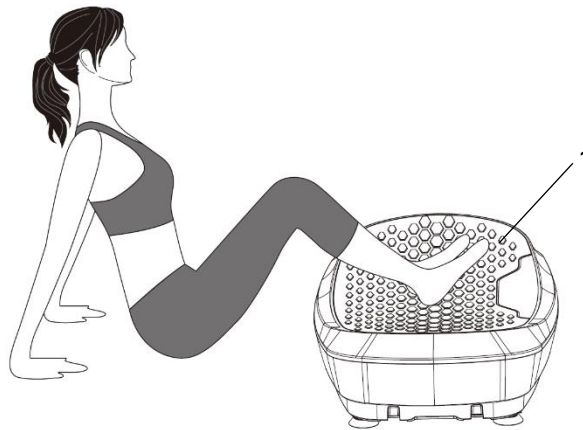

Fig. 3
2. Sit in front of the machine, keep your back straight and place your feet on the **Stepping Rubber (No. 1)** while supporting yourself with your hands at the sides. This exercise relaxes the leg muscles. (Fig. 3)